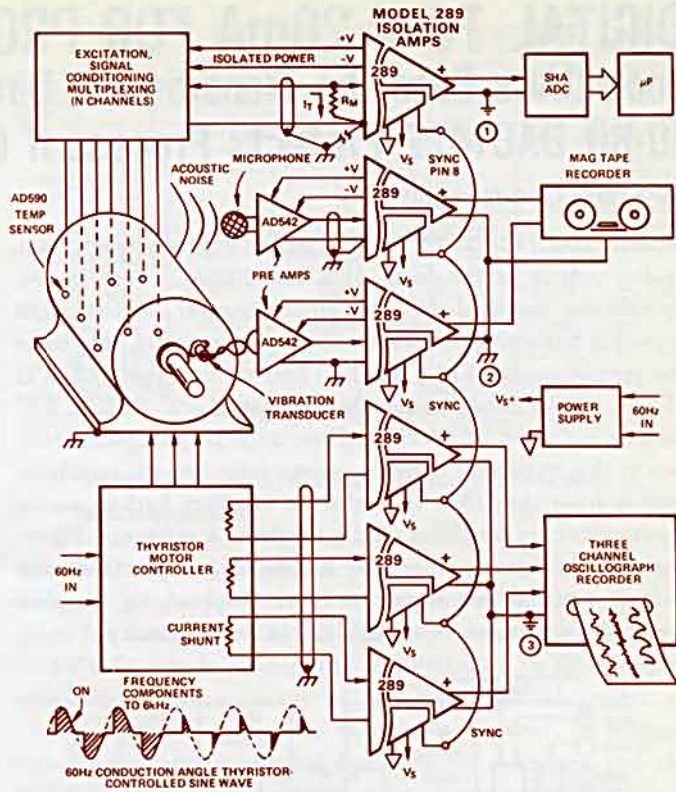

Figure 3. Test system illustrating possible applications for 3-port isolators.
Figure 3 shows a *portmanteau* application that demonstrates ways in which the extended bandwidth and three-port isolation of Model 289 can be useful in a single test setup. It represents a hypothetical test facility for large electrical machinery. The environment is alive with electrical and mechanical noise of all types and probably is not very clean. High voltage, transient and continuous, abounds. The system of Figure 3 shows a few of the measurements that might be made for which an isolator with Model 289's speed and accuracy would be a natural choice.
Temperature. (1) An essential test is to determine the hot-spot temperatures at various points inside the machine, since these affect the machine's life and a variety of design parameters, such as insulation, size, cooling, lubrication, and cost. As Figure 3 shows, AD590F current-output temperature sensors are indicated. They are a logical choice because of their small size, low cost, fast response, and easy signal conditioning, including multiplexing.* Since they are *current* sources, with current in microamperes numerically equal to absolute temperature (K), no errors are caused by line drops, contact resistance, or contact potentials at terminals, switches, or slip rings.